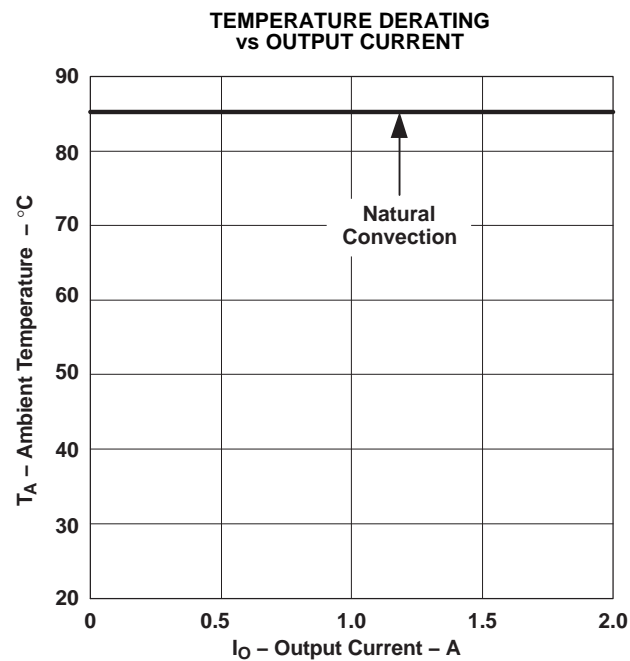

Figure 8.
- (4) The temperature derating curves represent operating conditions at which internal components are at or below manufacturer's maximum rated operating temperature. Derating limits apply to modules soldered directly to a 100-mm × 100-mm, double-sided PCB with 2 oz. copper. For surface mount packages, multiple vias (plated through holes) are required to add thermal paths around the power pins. Please refer to the mechanical specification for more information. Applies to Figure 8.